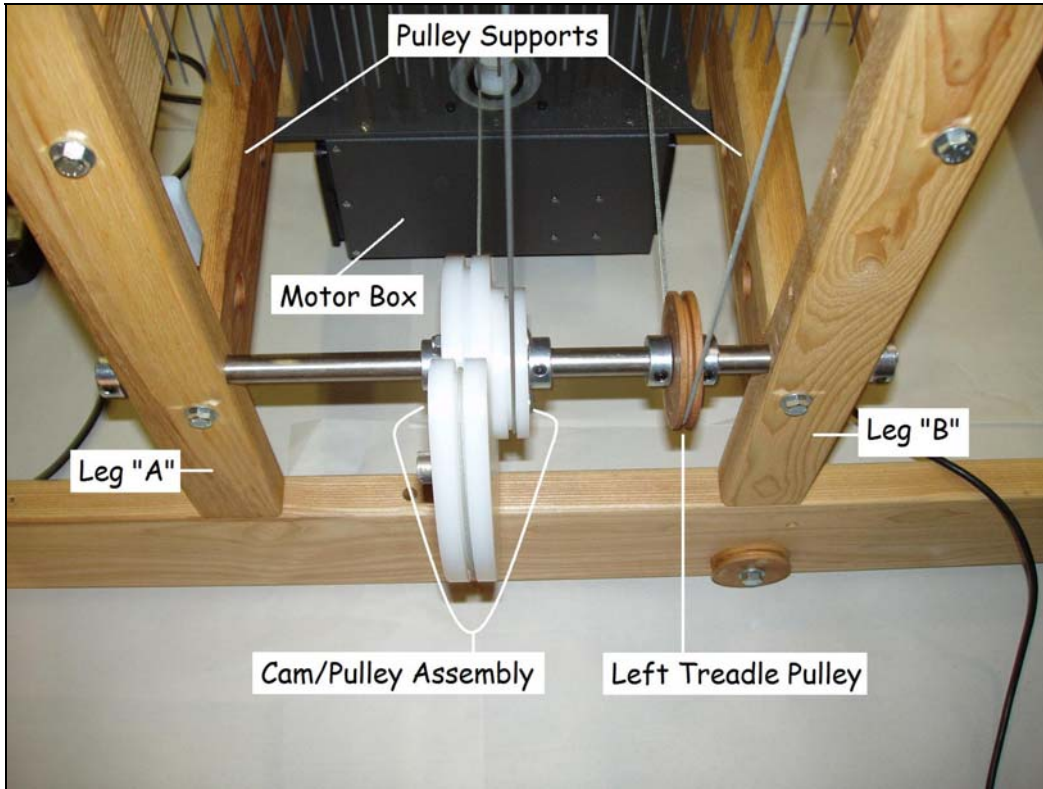

Fig. 3 – Cam and Pulleys (right side view)
2.) Re-insert the Axle through Leg 'A' so the end extends a few inches into the middle space between Legs 'A&B'. As seen in Fig. 3, and in this order, slide the following components onto the axle: